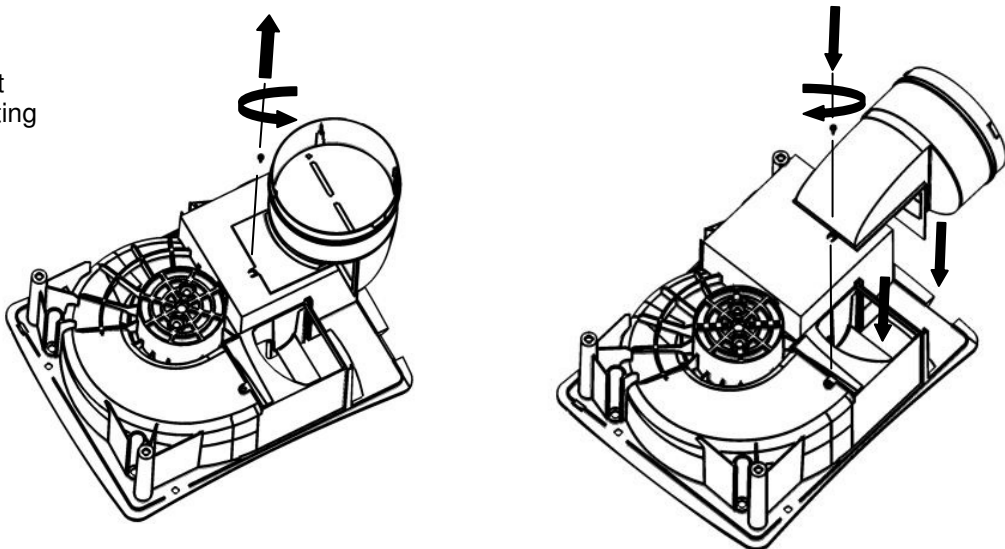

Fig. 5.
4. Remove the Skirt and pass the supplied screw fully through the flange of the base housing. Then attach the 3 supplied Panel Clips (Fig 5) and partially screw into place until they are properly retained (allowing enough gap for the panel thickness).